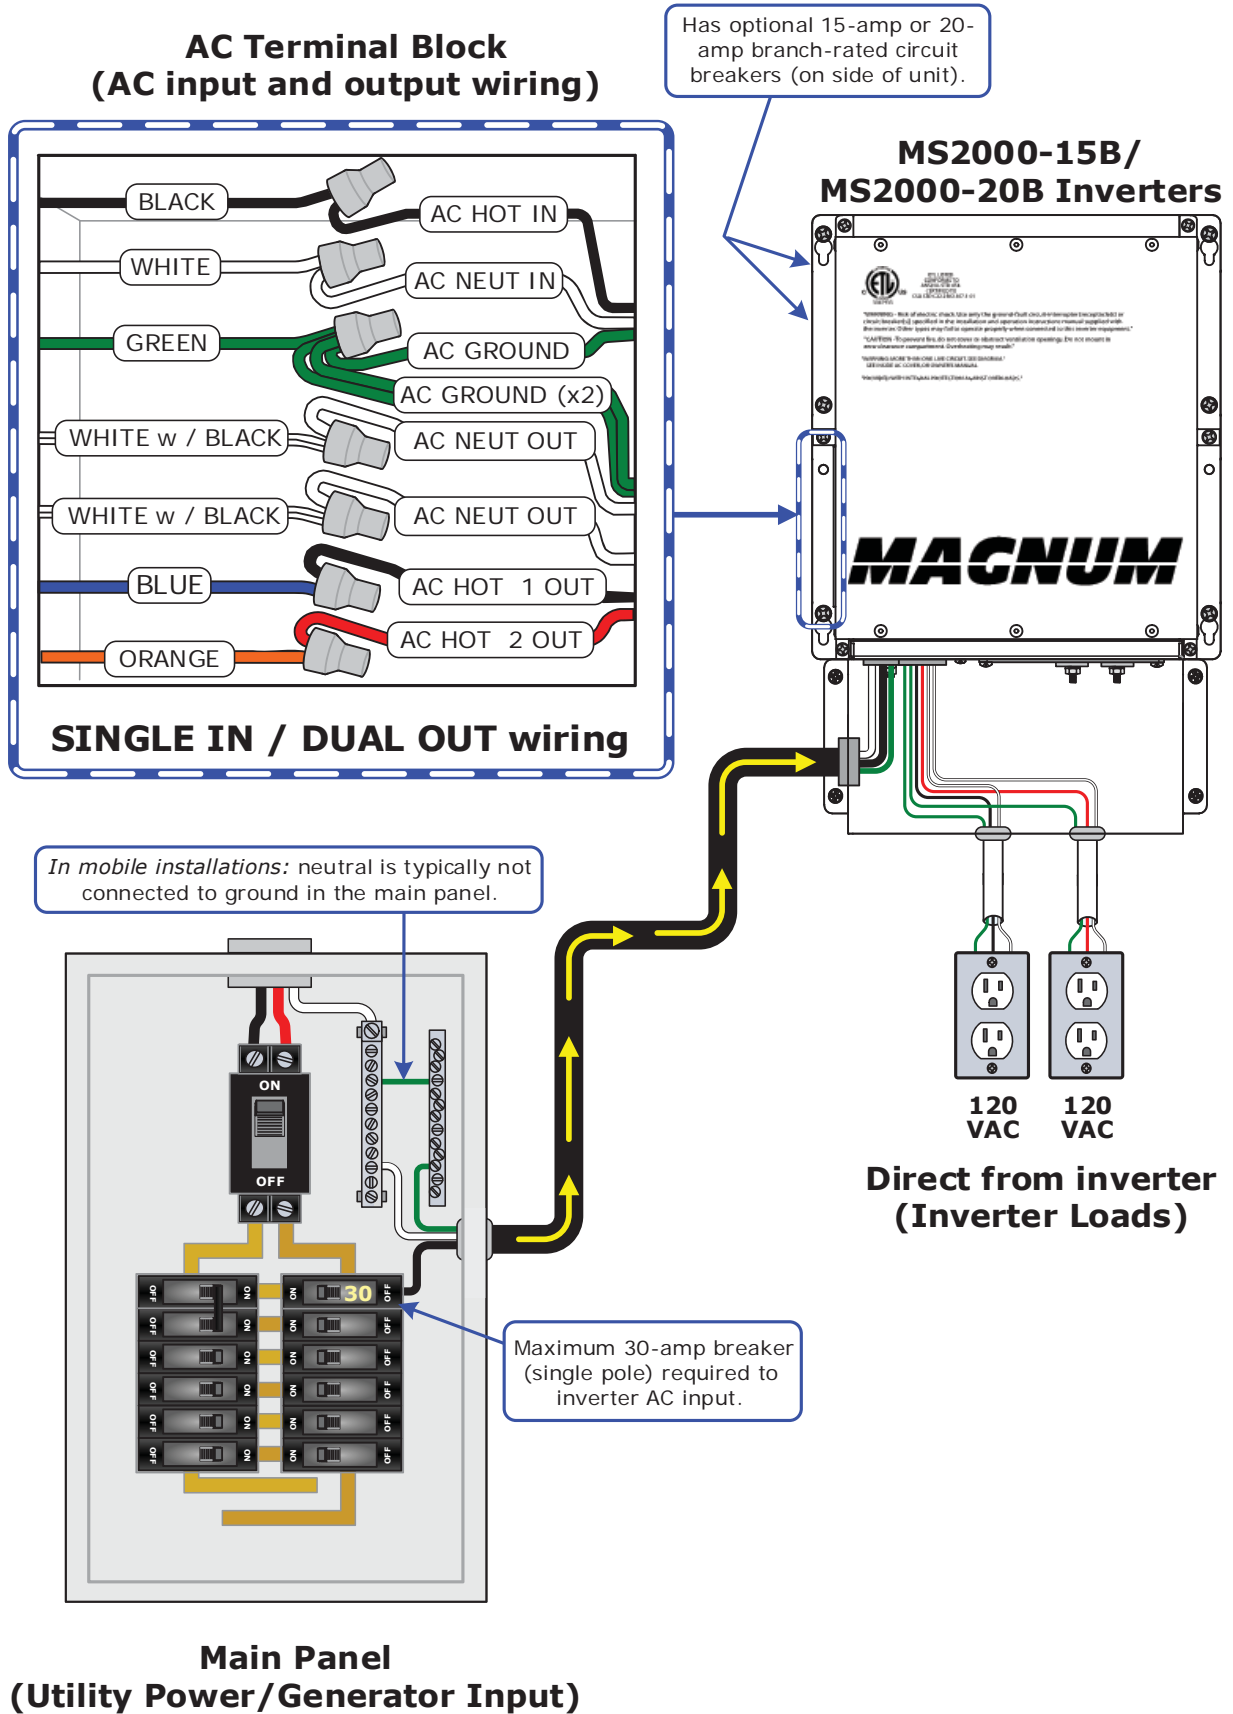

Figure 2-17, AC Wiring for MS2000-15B/-20B Models
Info: Depending on the AC wiring configuration, you may need to connect a wire to the inverter's AC HOT 2 OUT (ORANGE) wire (see Figure 2-17).
7. Connect the inverter's AC NEUT OUT (WHITE w/BLACK) wire to the sub-panel's neutral busbar (or to the neutral connections on the outlets, if using the output breaker versions—see Figure 2-17) using field wiring leads.